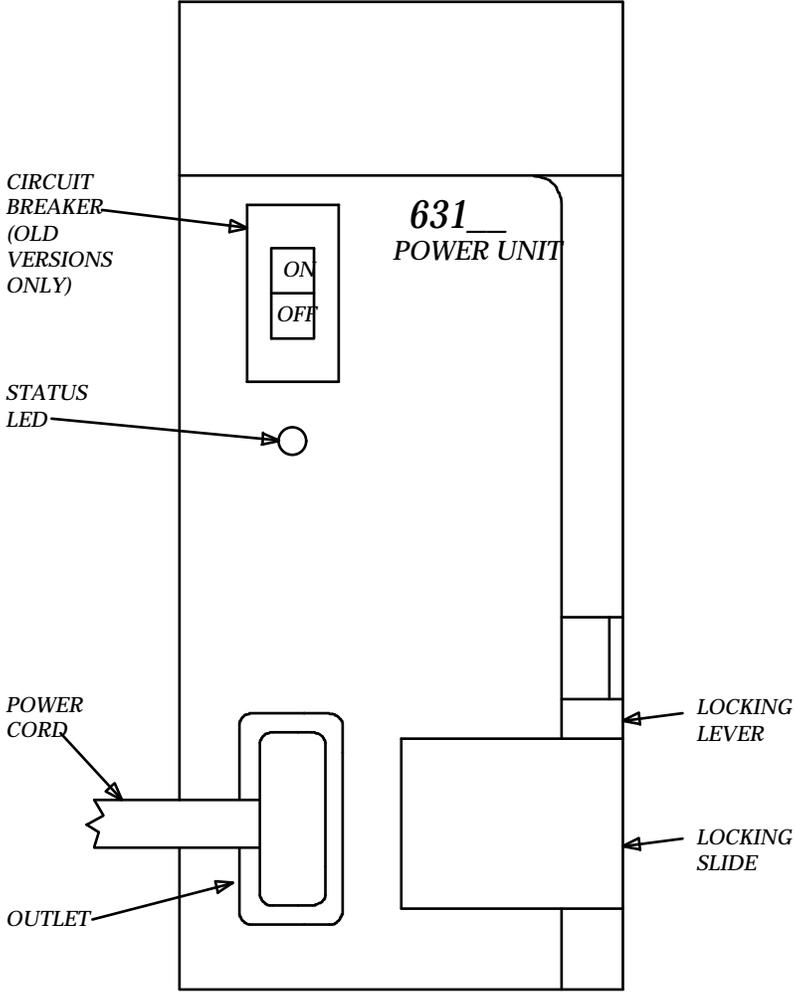

FIGURE 4-16. 631-Type Power Unit
14. Connect the power cords to the power units. The power leads are the white cables equipped with plugs that are run through the slots in the front of each carrier (see Figure 4-16).